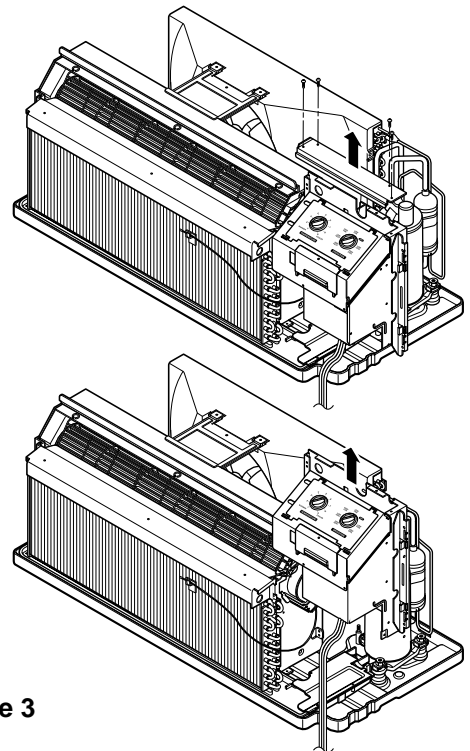

Figure 3
2. Remove the 4 screws which fasten the control box cover. (See Fig.3)